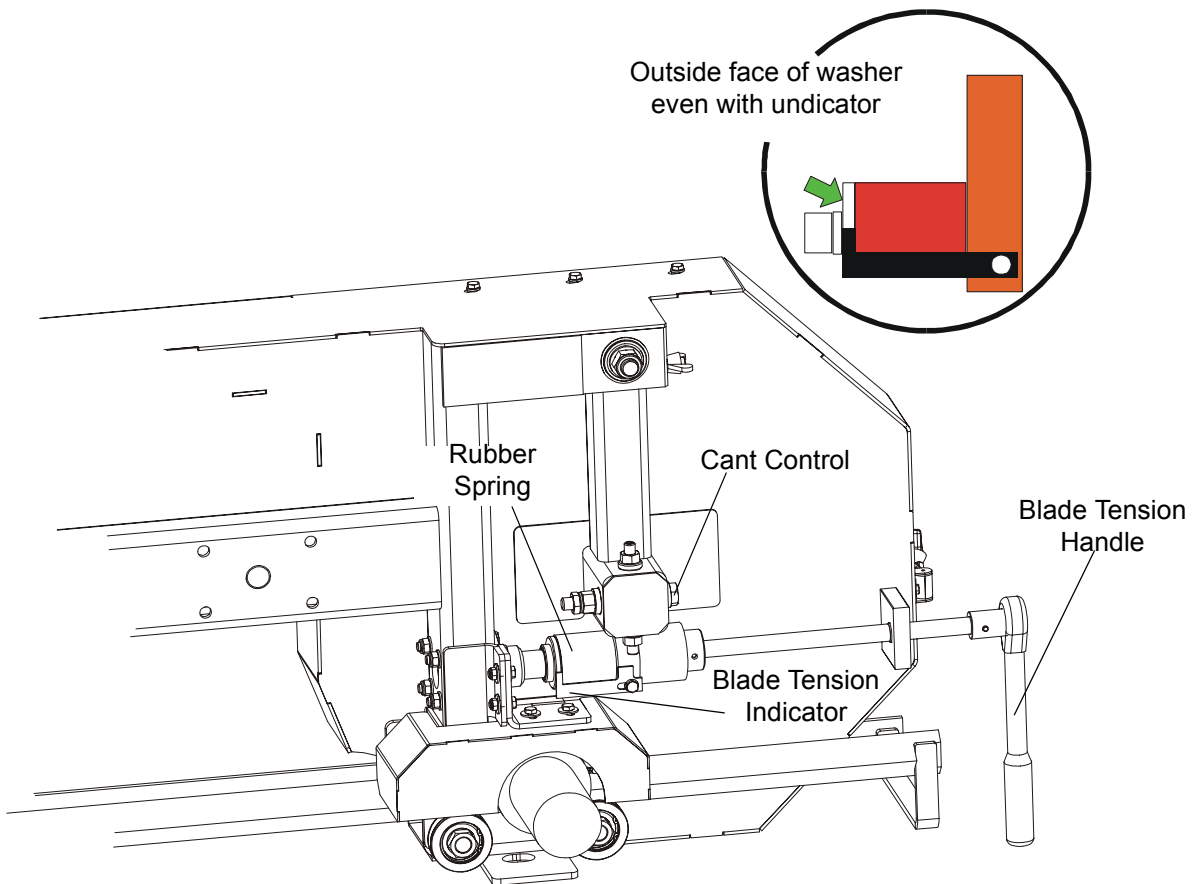

FIG. 2-9
**See Figure 2-9.** Turn the blade tension handle clockwise to compress the rubber spring and tension the blade. Check the blade tension occasionally when adjusting the cant control or while cutting. As the blade and belts heat up and stretch, the blade tension will change. Also, ambient temperature changes can cause tension to change. Adjust the tension handle as necessary so that the indicator is parallel to the blade guide arm.
5. Use the cant adjustment bolt, shown in **Figure 2-9** to adjust where the blade travels on the blade wheels.